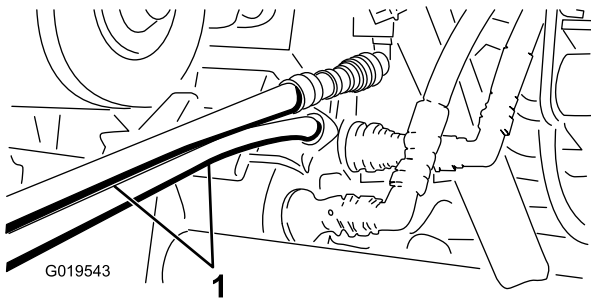

Figure 71
5. On the other machine, connect the 2 hoses to the coupler still in the coupler bracket (connect the top hose to the top coupler and the bottom hose to the bottom coupler) (Figure 71).